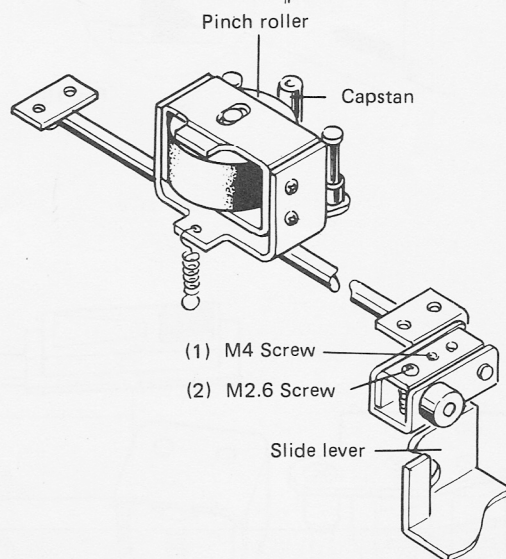

Fig. 14
2. Set the FUNCTION lever to PLAY to start the motor. Then loosen screw (2) as shown in Fig. 14, using adjust screw (1) adjust the pinch roller and capstan contact is even and retighten screw (2).